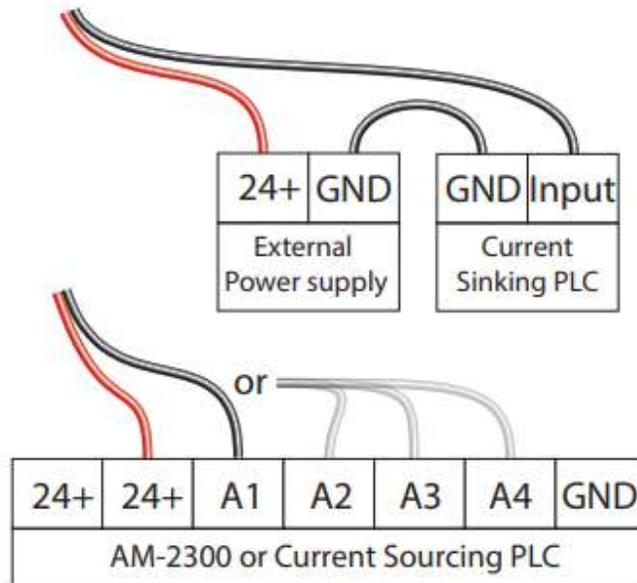

Figure 4-1 Wiring AS-TX to Current Sinking (top) or Current Sourcing Controllers (bottom).
1. Before wiring the sensor, make sure the controller is disconnected from live (AC) voltage.
2. Connect the probe wires to the controller according to the wiring diagram shown in Figure 4-1.